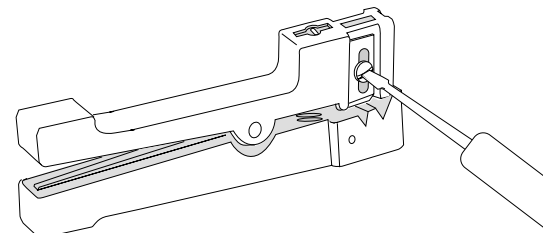

Figure 2
**4.1** Before using the stripper, make sure that it is properly adjusted. Use a small slotted screwdriver to adjust one of the blades on the side of the buffer tube cutter so that it seats against the lower jaw but does not force the jaw open (Figure 2). Leave the blades on the front and other side of the tool fully retracted so that they do not extend into the grooves of the lower jaw.